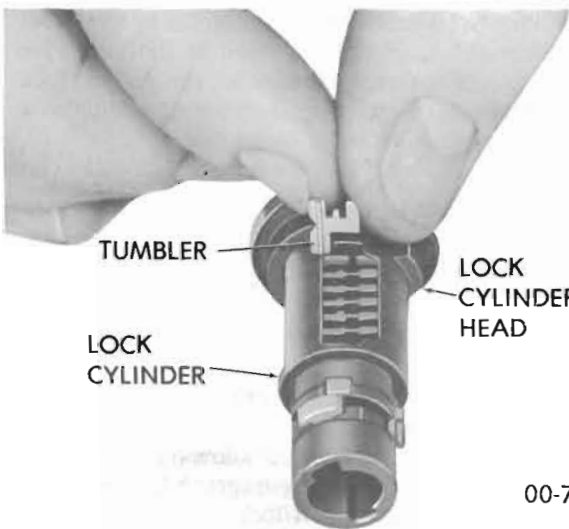

Figure 00-2 - Installing Tumblers
1. Hold cylinder with head of cylinder away and starting at the head of the cylinder, insert the tumblers in their proper slots in the order called for by the code, ribbed side toward you and long point down. See Figure 00-2.